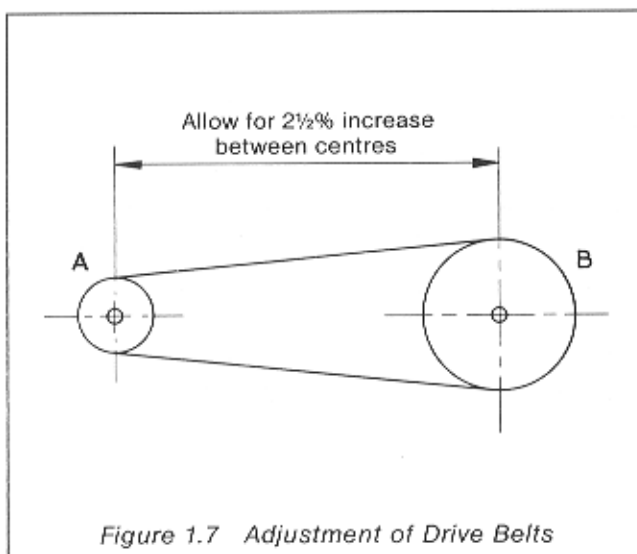

Figure 1.7 Adjustment of Drive Belts
1.38 To prevent damage to new vee belts when fitting, the distance between the centre of the engine pulley and the driven pulley as shown in Figure 1.7 must be capable of a reduction from the designed running position. Provision must also be made for an increase of at least 2.5% over the designed running position to provide adjustment for belt stretch and wear during the life of the belts. Multiple belts should always be renewed in matched sets.